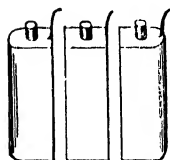

Fig. 279. Cells with
**Flash-lamp Battery.** To make a flash-lamp battery, obtain a piece of thin sheet zinc, 1 ft. long by 6 in. wide, and cut it into three pieces 6 in. by 4 in., and from each of the pieces cut off a 1-in. by 4-in. strip. With these pieces make three zinc cells, one 1 in. square, the others D-shape, as shown in plan at Fig. 278. Solder the edges, and fit a zinc bottom to each, cut from one of the narrow strips; then solder all joints water-tight. Having made the cells, solder a 2-in. length of electric bell line wire to each, as shown at Fig. 279. Next obtain three rods of carbon, of any section (electric arc lamp carbon will do), and cut three pieces to the same length as the zinc cells; then fit a small brass cap or collar tight to each carbon. Next make three small canvas bags to hold the carbon and form the inner cells; they must be as long as the carbon